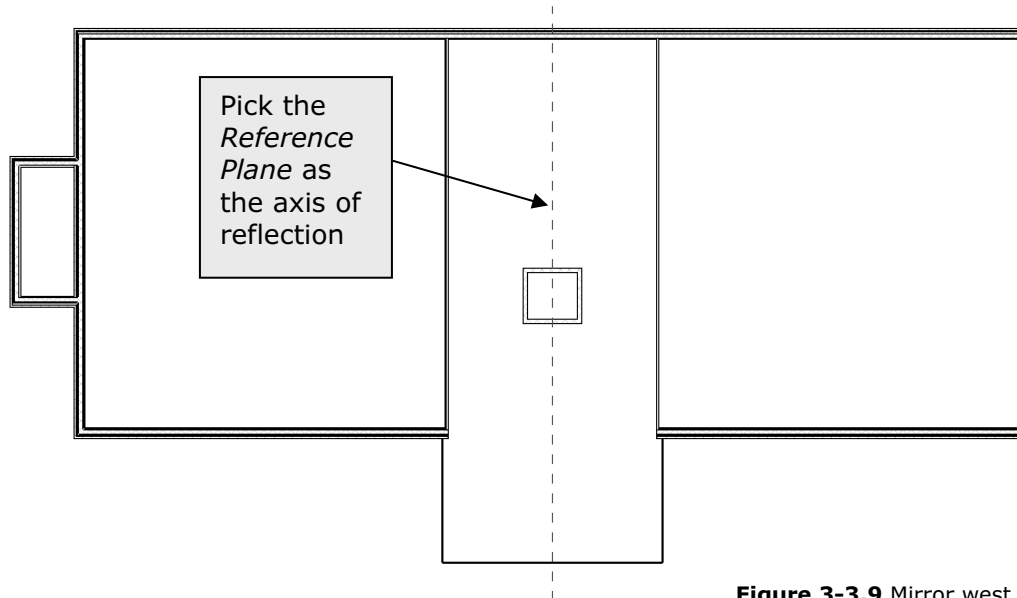

Figure 3-3.9 Mirror west stair
25. Draw a Reference Plane snapped to the vertical, centered on the south atrium wall (See Figure 3-3.9).
26. Erase the four walls of the east stair shaft; this will include the main east wall of the office building (Figure 3-3.9)
27. Select the six walls at the west stair (Figure 3-3.9).
28. Select the **Mirror** tool (on the *Ribbon*) and then select the *Reference Plane* (Figure 3-3.9).